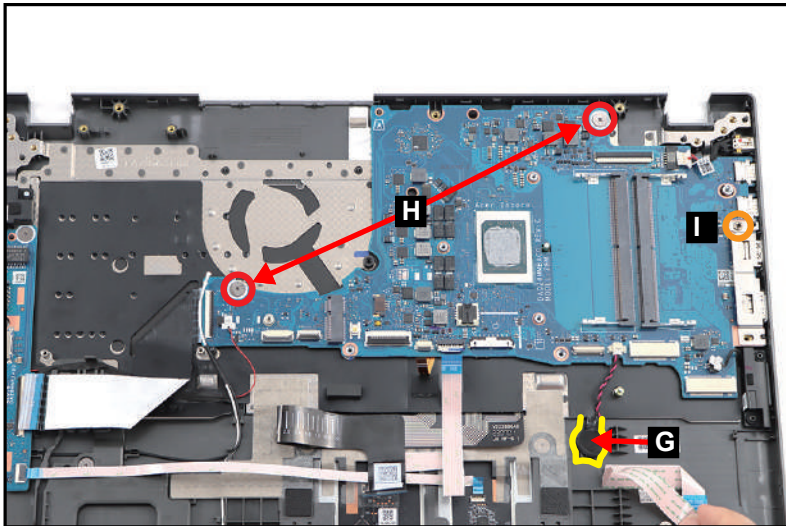

Figure 3-110. Replacing the Mainboard
6. Install the RTC battery (G) onto its slot on the top assembly (Figure 3-110).
7. Install two (2) screws (H) to secure the mainboard. Then install another one (1) screw (I) to secure the right IO bracket (Figure 3-110).